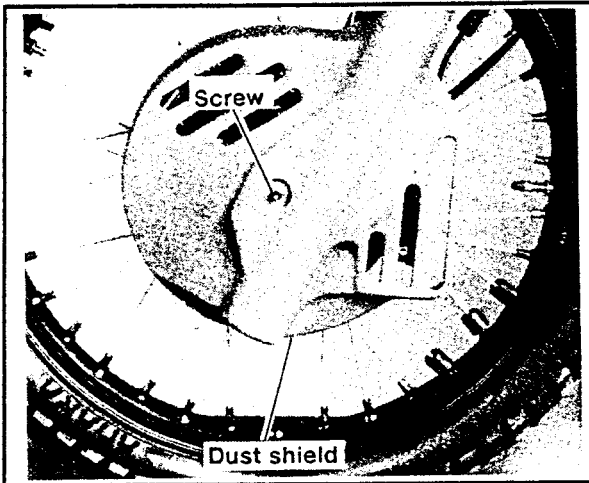

Figure 5-46. Front Brake Dust Shield
1. See Figure 5-46. Remove socket head screw, lock washer, flat washer, and front brake dust shield (2).
8. See Figure 5-46. Install front brake dust shield, flat washer, lock washer, and socket head screw.